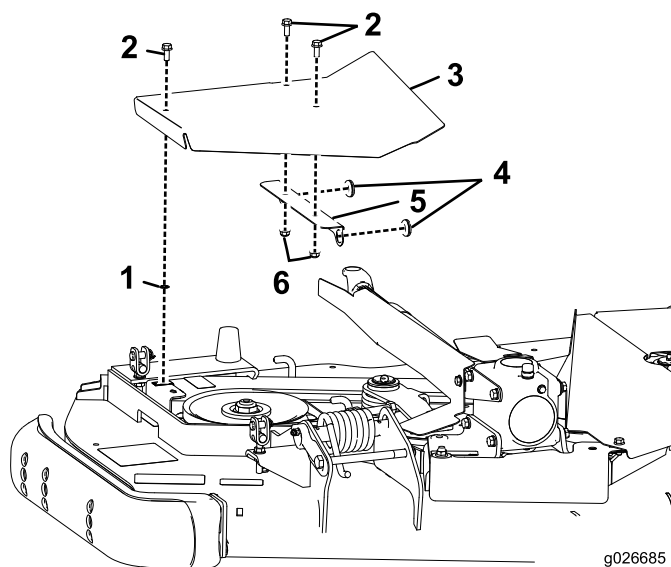

Figure 11
1. Insert a grommet into each of the 2 holes in the cover support (Figure 11).
2. Mount the cover support to the right deck cover with 2 hex flange screws and flange nuts (Figure 11).
3. Install the hex flange screw and push nut to the cover (Figure 11).
5. Secure the cover to the existing retainer nut in the deck with the previously installed hex flange screw (Figure 11).